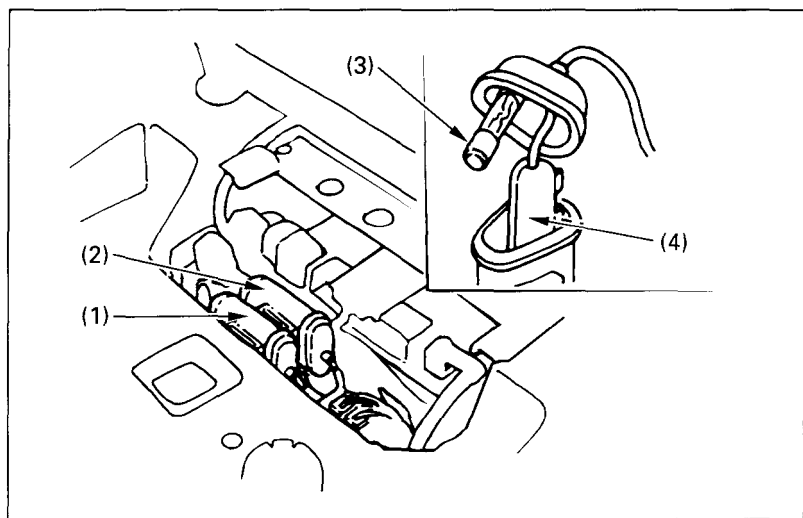

Fig. 4-20 (1) Main fuse (Red wire)
As illustrated in Fig. 4-20, the main fuse (1), the sub fuse (2) and the spare fuse (3) are located in the battery compartment. (The main fuse is connected to the red wire.)